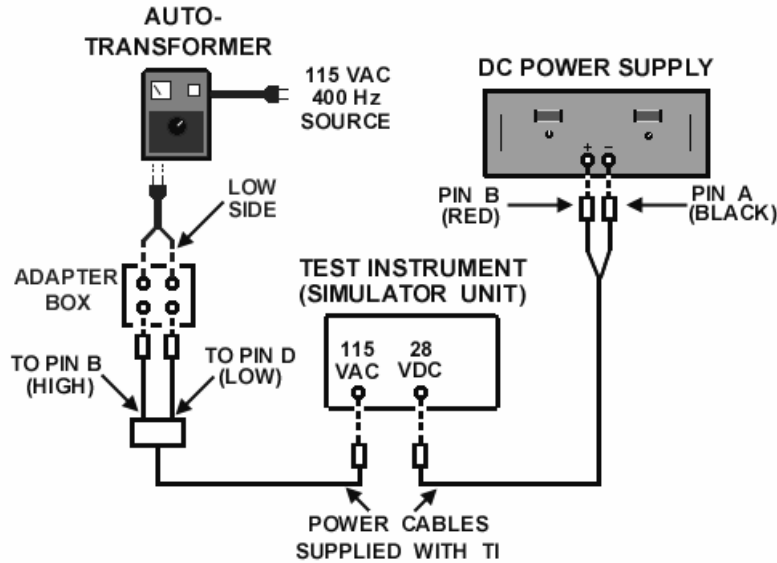

Figure 1. Power supply - equipment setup.
c. Connect equipment as shown in figure 1.